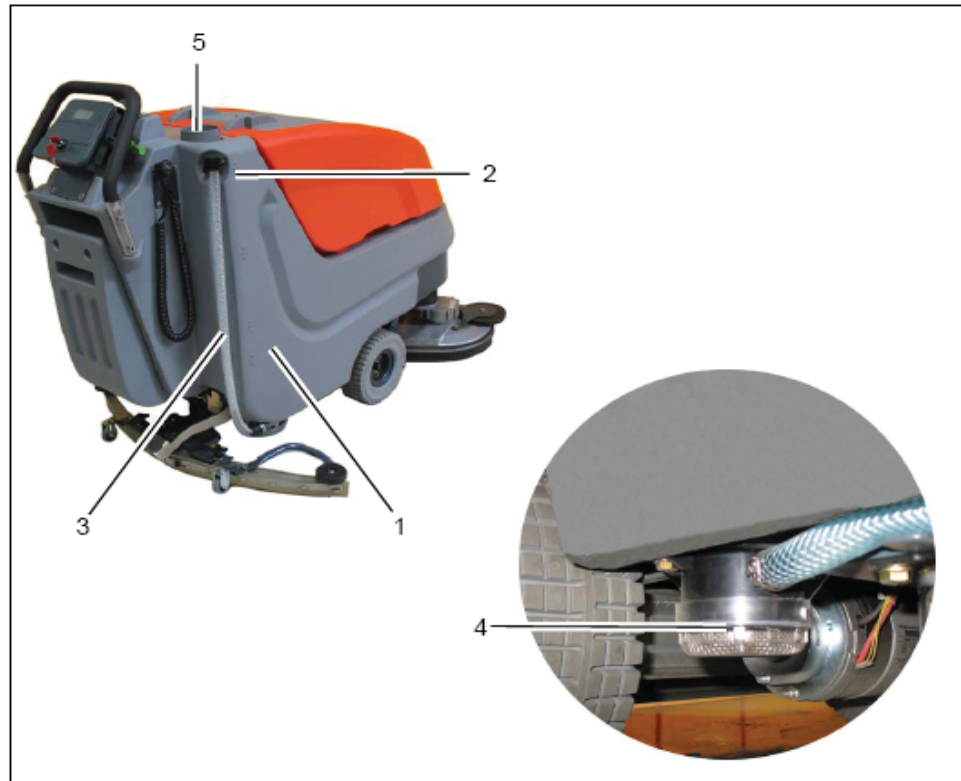

Fig.8
Fill solution tank (Fig. 8/1) before operation or as required. Park vehicle on level ground. Open tank lid (Fig. 8/5) and fill tank up to the maximum (1/1 marker) (Fig. 8/2). Alternatively, filling of the machine via quick coupling (Fig. 8/6) is available. Before doing so, connect the filling hose of the metering unit to the quick coupler. The floater valve automatically closes after the maximum filling level has been attained. (Refer to specific operating instructions for information on operation of the metering unit) The maximum service pressure of the floater unit is 87 psi. (6 bar)
Park vehicle such that the fill level hose (Fig. 8/3) is located above the drain aperture in the floor. Take fill level hose from holder and remove cap.
Check clean water filter (Fig. 8/4) at weekly intervals. Clean or replace if required.
1. Empty solution solution tank (Fig. 8/1) see paragraph 5.5.2.